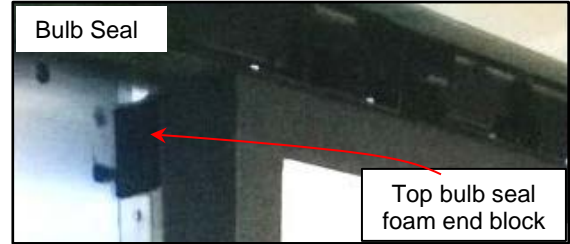

Figure 29
7. Make sure a short foam block is installed in the end of each top panel bulb seal. Replace any block if it's missing, torn, or damaged. (See Figure 29)